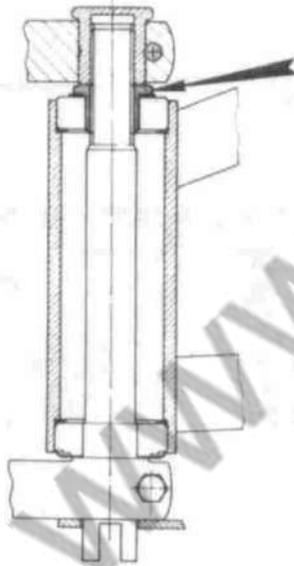

Fig. 52
- 8) Unscrew the nut locking the steering pivot (Fig. 52).
If it is required to adjust the play of the steering pivot, turn the nut indicated by Fig. 52, till you perceive a slight friction in steering.